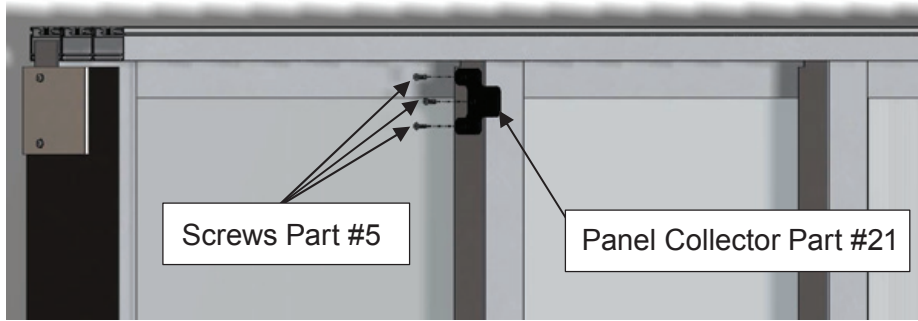
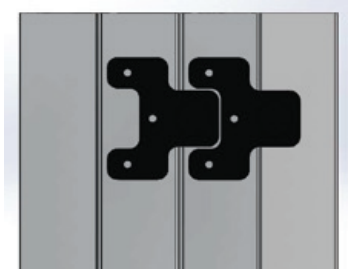

FIGURE 1
FIGURE 2
24. Install the longest trim cap pieces (Part #17) into the exterior and center jamb tracks (Part #11) on the operable side as shown in Figure 1 then install the other two trim caps that are the same length into the interior and center jamb tracks shown in Figure 2.
25. Install thresholds (Part #18) into the exterior and center sill tracks (Part #12a) shown in Figure 1 and the trim cap (Part # 17) of the same length into the exterior and center head tracks (Part #10) shown in Figure 2.
26. Install panel collector (Part #21) on the first intermediate panel using the pre-drilled holes and screws (Part #5) as shown in Figure 1. If more than one panel collector is necessary for your configuration (4 panels or more), install remaining panel collectors one at a time and ensure proper alignment as shown in Figure 2.
For staggered track doors only, assemblies come with sill and head track end caps attached (Part #22, #23). These are designed for aesthetic purposes to cover the exposed head and sill track faces in the location where the staggered tracks terminate. To remove the end caps for panel installation, simply remove the screws (Part #5) from the head or sill screw channels and remove the caps. When reattaching after panel installation, the track faces should be coated in sealant, and the end cap screwed back onto the face via screw channels as shown in Figures 1 & 2.